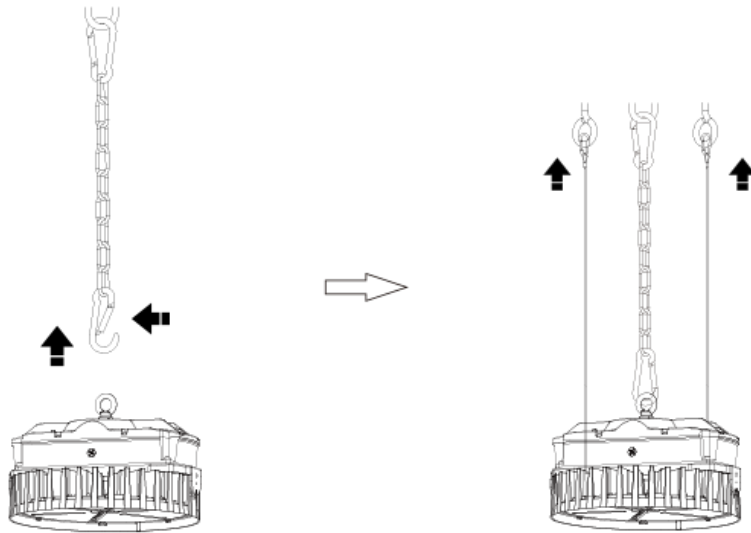

Figure 1
1. Hang the fixture on the ceiling hook or chain. (Figure 1)